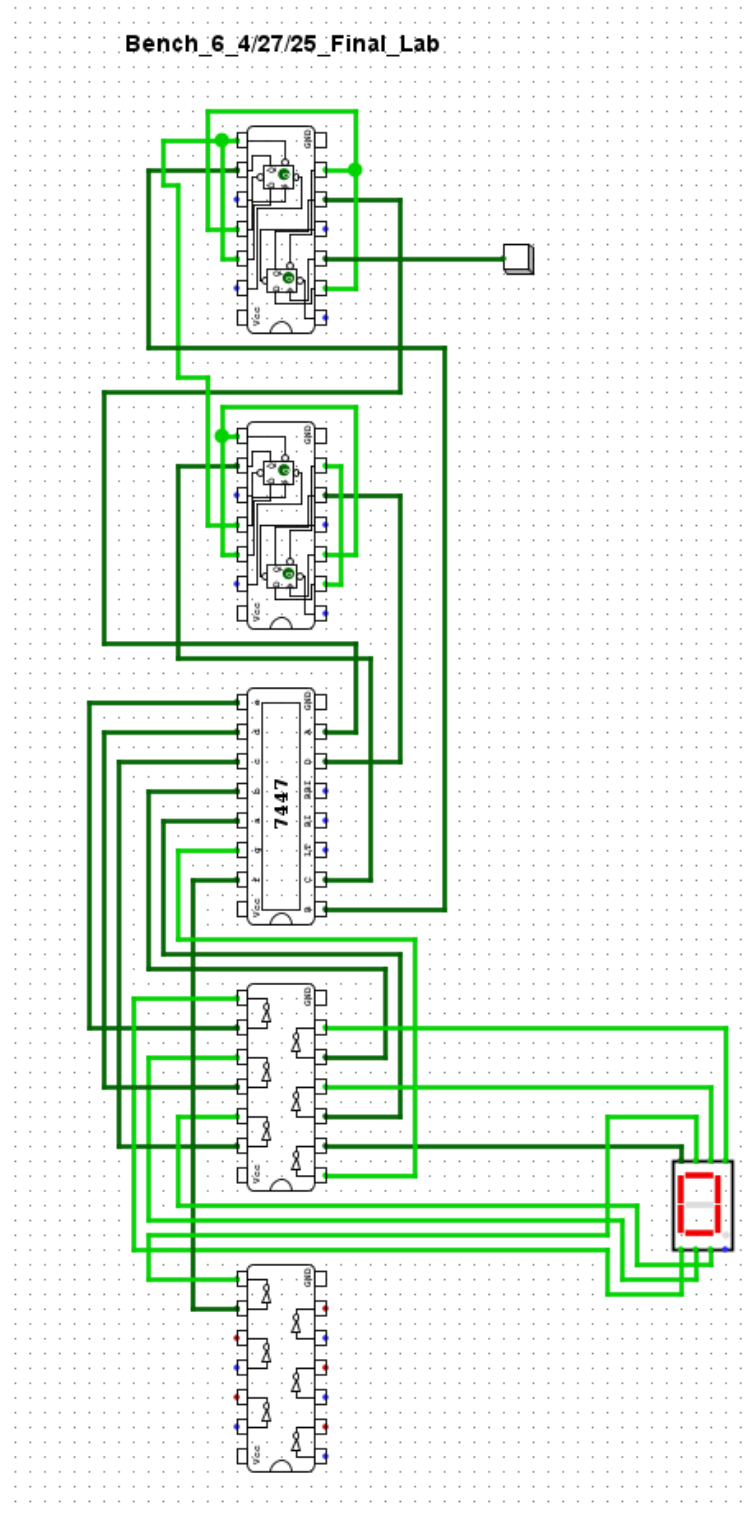

Figure 2: Completed Chip-Level D-Flipflop 4-Bit Counter
5. The completed chip-level schematic should appear similar to Figure 2.